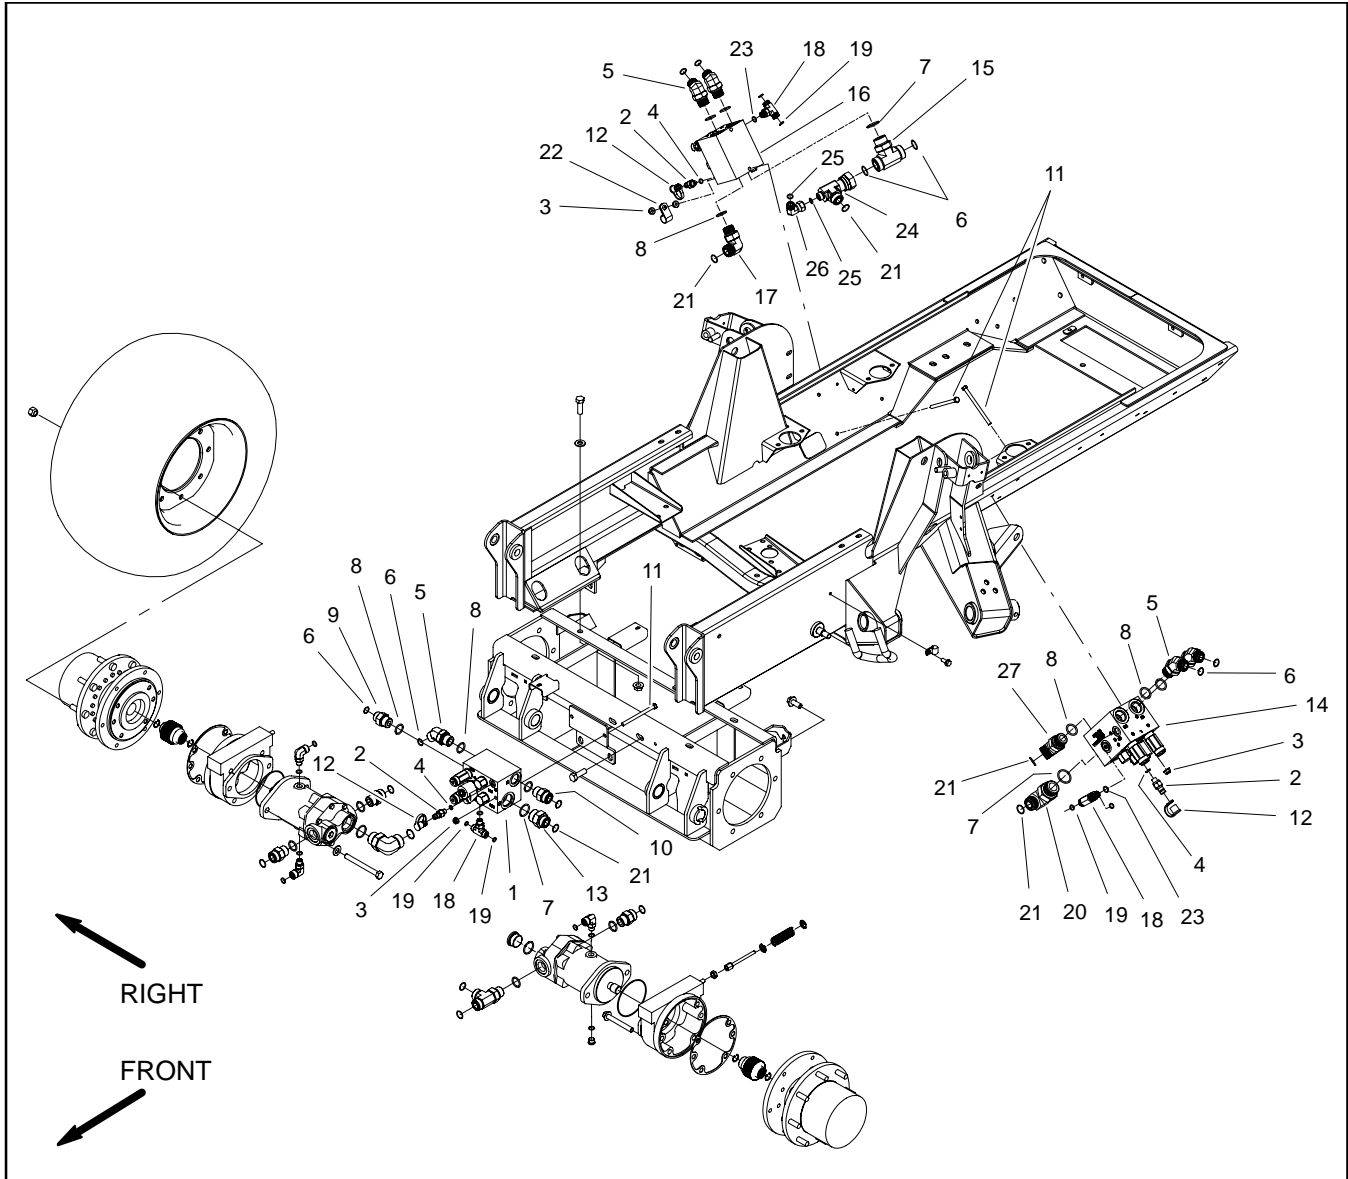

Figure 106
### Removal (Fig. 106)
5. Remove PTO manifold from the frame using Figure 106 as a guide.
### Installation (Fig. 106)
2. Install PTO manifold to the frame using Figure 106 as a guide.